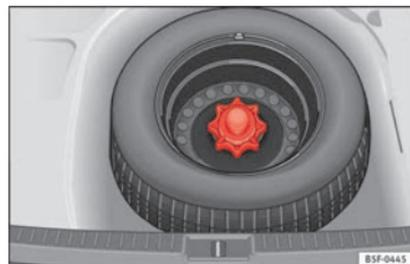

Fig. 181 Compact temporary spare wheel: raised floor panel.
- Lift and hold up the floor panel to remove the temporary spare wheel » **Fig. 181**.